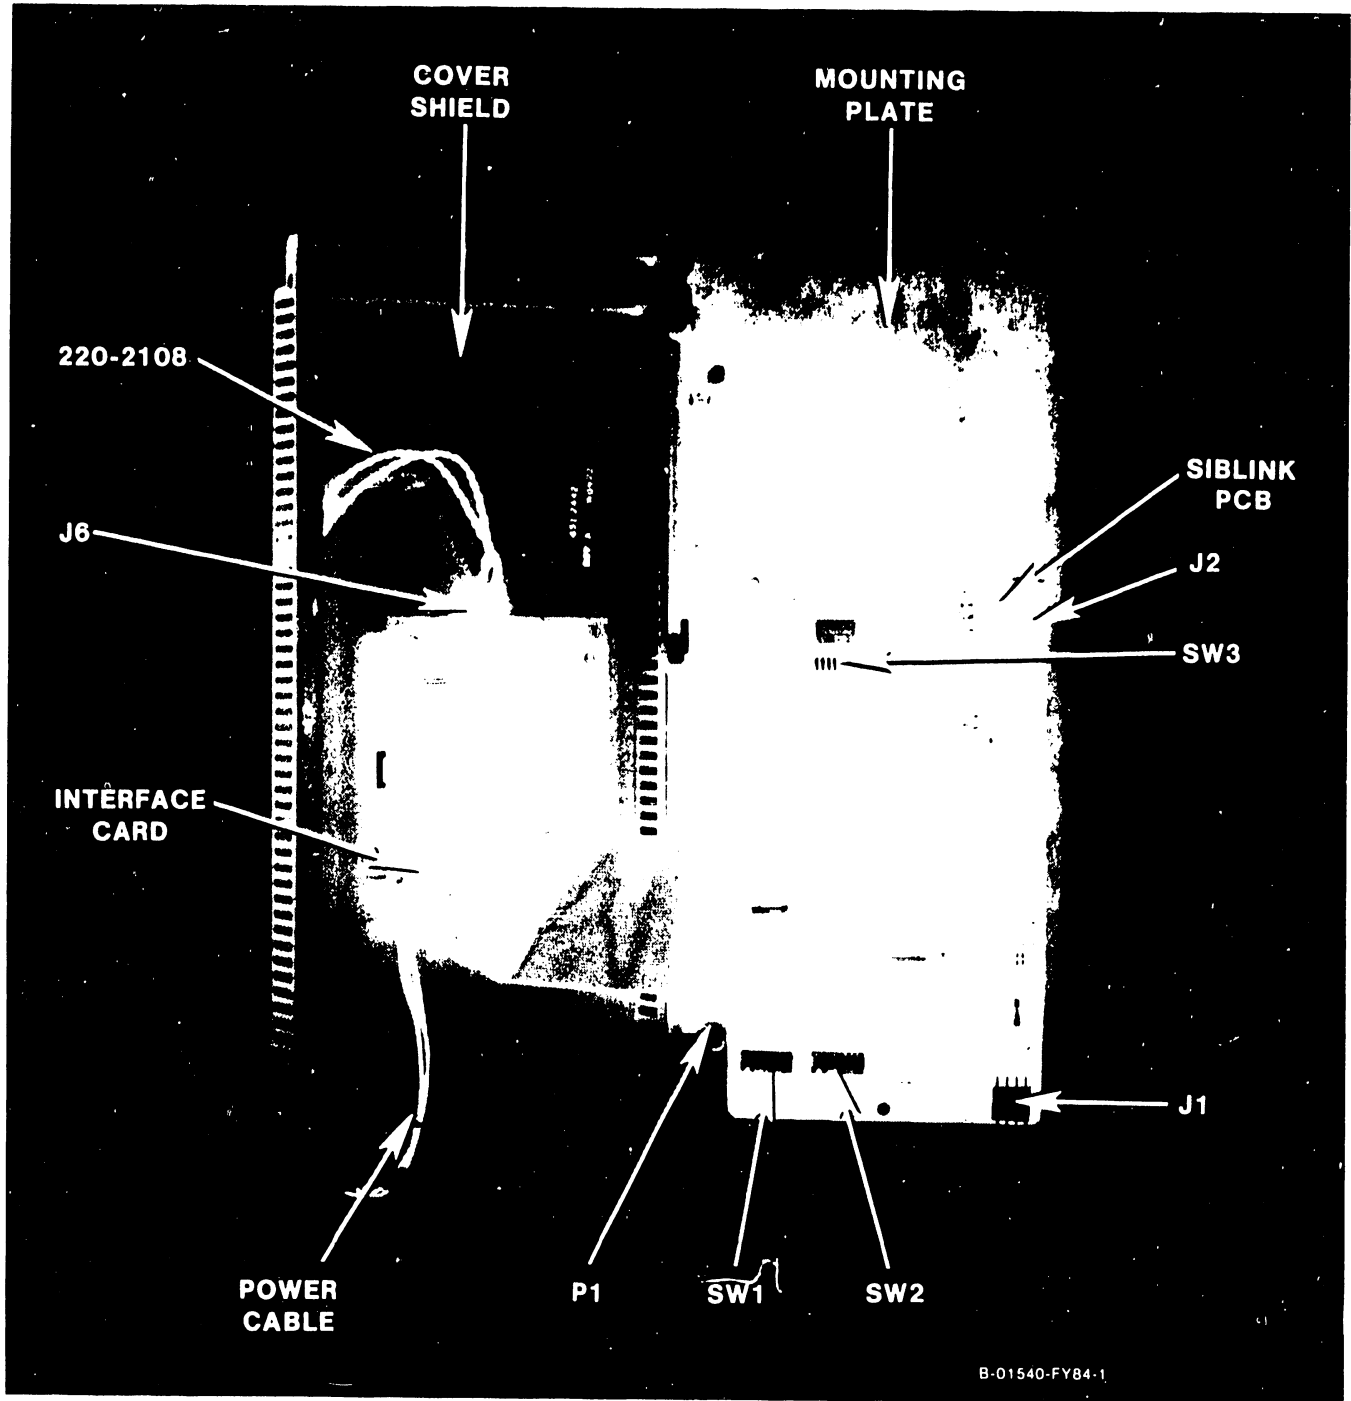

Figure 5 Sibling PCB and Interface Card Mounting
13. Place the insulator sheet (#615-0431) over the four stand-offs on the mounting plate (#452-0329). Then mount the Siblinc PCB (210-8307) on the mounting plate using four 6/32 x 1/4 screws (see Figure 5).
14. Mount the Interface card (210-7780) on the cover shield (451-2442) using four screws. The mounted cards should appear as shown in Figure 5.
15. Assure that the switch banks (see Figure 5) on the Siblinc PCB are properly set for device type 0314. The correct settings are as follows:
16. Connect the interconnecting cables between the Siblink and Wang Interface cards as follows (see Figure 5):